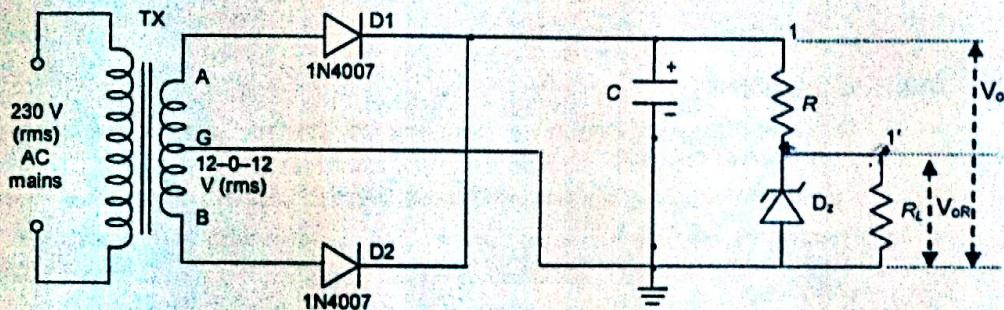

Fig. 5.2 Regulated Power Supply with zener diode.
1. Connect a zener diode  $D_z$  with series resistance  $R = 560 \Omega$  as shown in Fig. 5.2. The voltage across  $D_z$  will now be the desired (regulated) output voltage  $V_{oR}$  which will supply current  $I_L$  to the external load  $R_L$ .